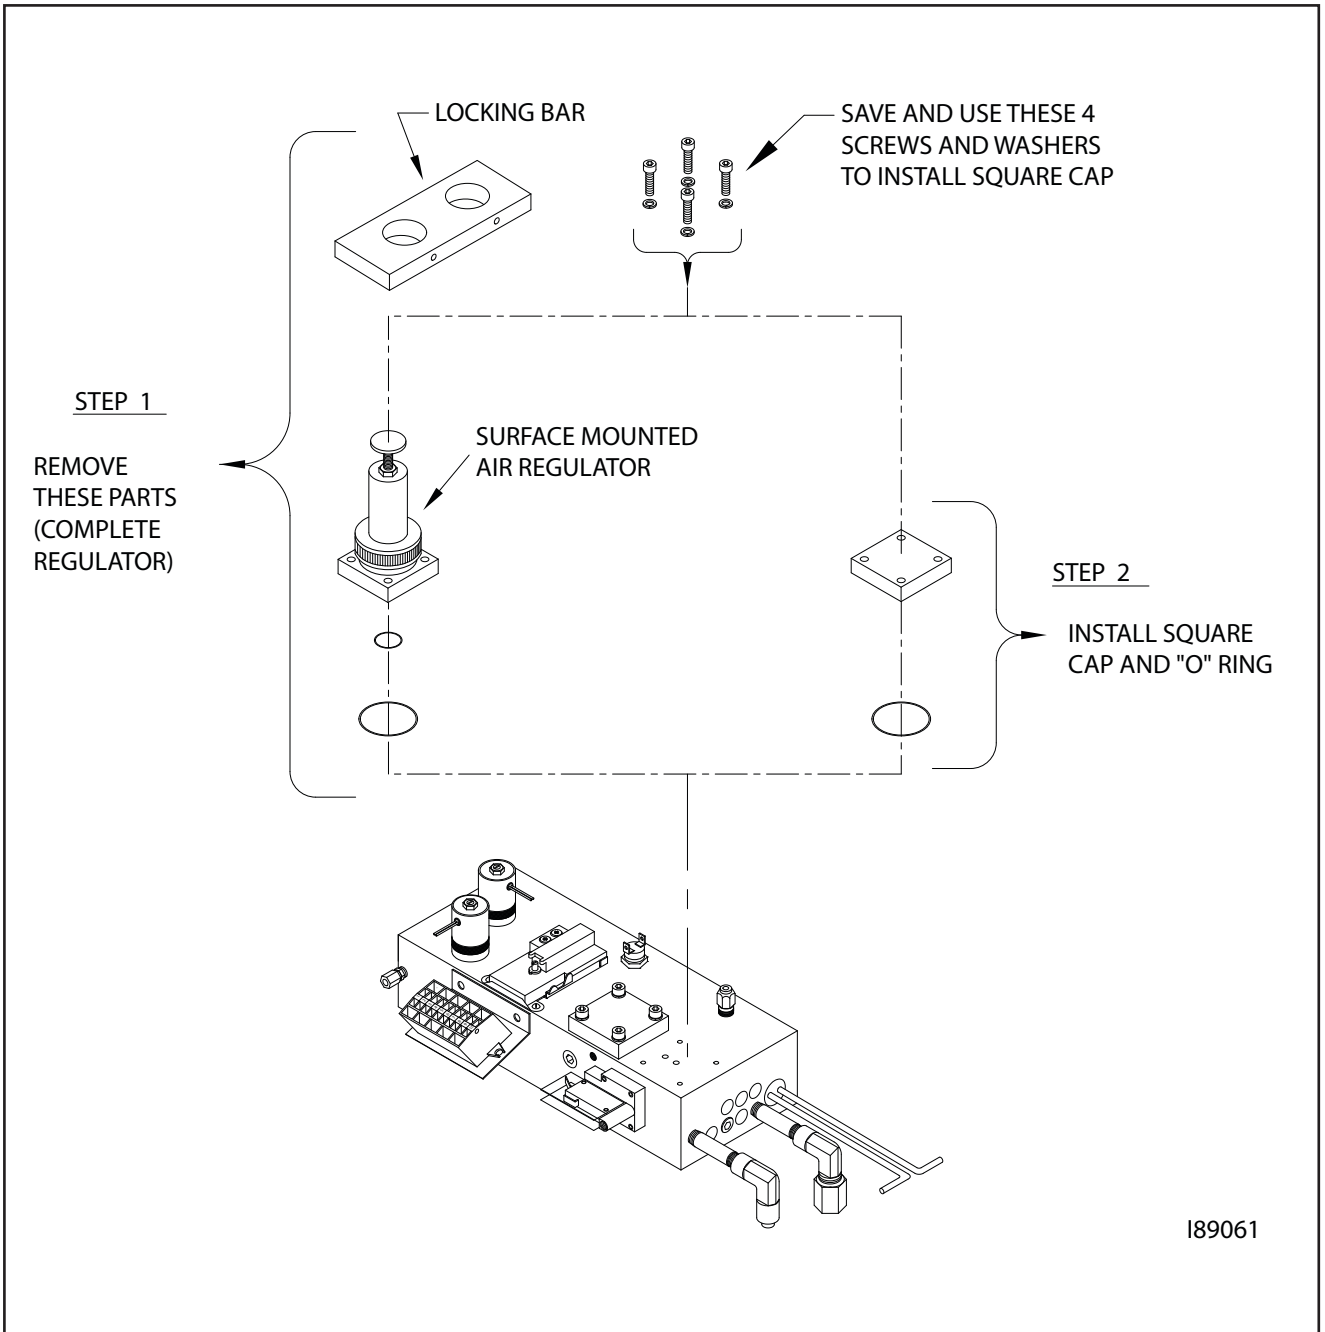

Figure 3F - Removing the Air Regulator from the Heater Block on the CB-500 Series Burner
3. Refer to Figure 3F. Use a 1/8" Allen wrench to loosen the locking bolt on the locking bar.
5. Use a 5/32" Allen wrench to remove the four (4) bolts and washers holding the surface-mounted air regulator in place, then carefully remove the air regulator.
7. Install the square cap with the o-ring using the four (4) bolts and washers. Tighten the four bolts firmly in a *crisscross pattern* to ensure that there are no leaks.